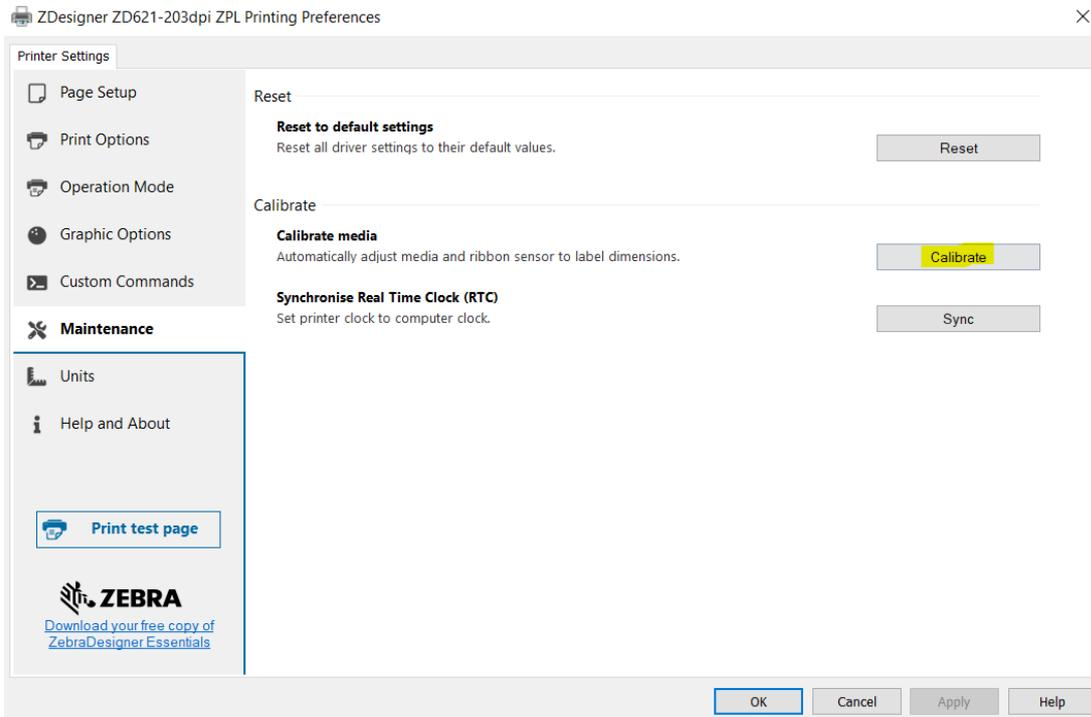

Figure 17: Calibrating the medium
- Figure 17: Calibrating the medium 10
If, when printing, there is a shift in the contents of the label, we advise to carry out medium calibration via printer drivers. In this procedure, the printer automatically adjusts the medium and the sensor to the label's dimensions. You can start the process by clicking the button *Calibrate* in the **Maintenance** tab (Figure 17).